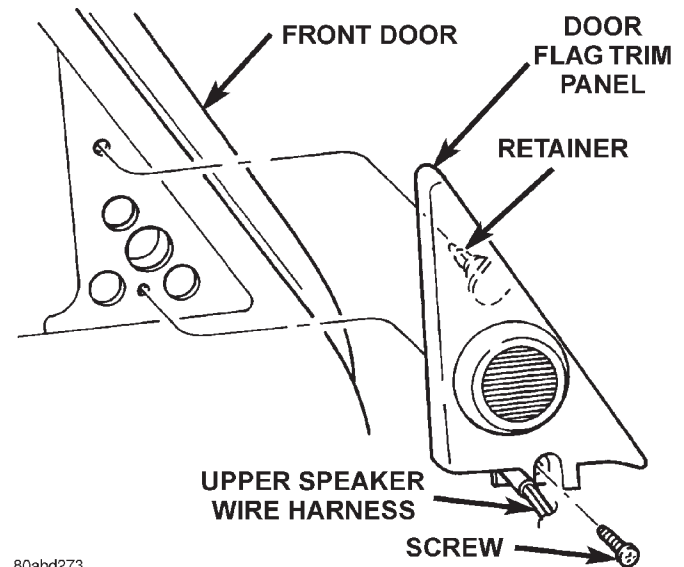

Fig. 10 Front Door Flag Trim Panel Remove/Install
- (6) Pull the front door trim panel away from the inner door far enough to access the inside door latch release and lock linkage rods near the back of the inside door remote controls.
- (7) Unsnap the plastic retainer clips from the inside door remote control ends of the latch release and lock linkage rods, and remove the rod ends from the inside door remote controls.
- (8) Unplug the wire harness connectors from the door power switch module or, on the driver side only, the stand-alone power mirror switch.
- (9) Set the front door trim panel aside.
- (10) Remove the one screw that secures the front door flag trim to the inner door panel (Fig. 10).